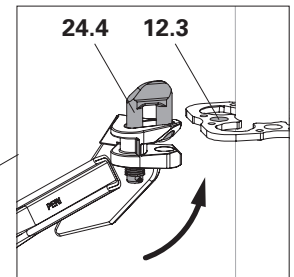

Fig. A4.11d
- Push the upper brace head (**24.2**) with raised bolt (**24.4**) onto the upper rosette. (Fig. A4.11d)